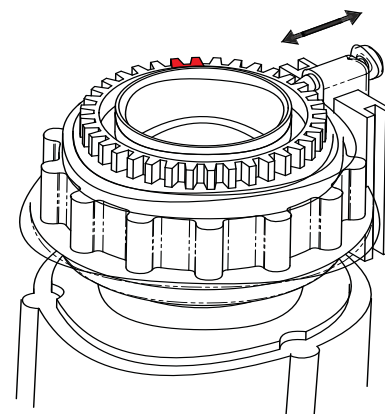

Figure 9-9
- Rotate the adjusting disk a couple of pawl positions (teeth) back; the pawl must be in the position marked **red** (see figure 9-9).